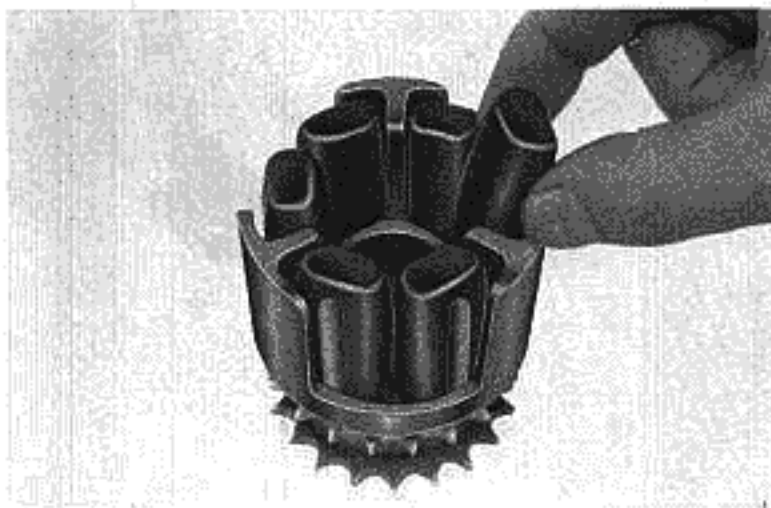

Fig. 4-19
- \* Install the primary drive sprocket dampers in the primary drive shaft as shown in Fig. 4-19.